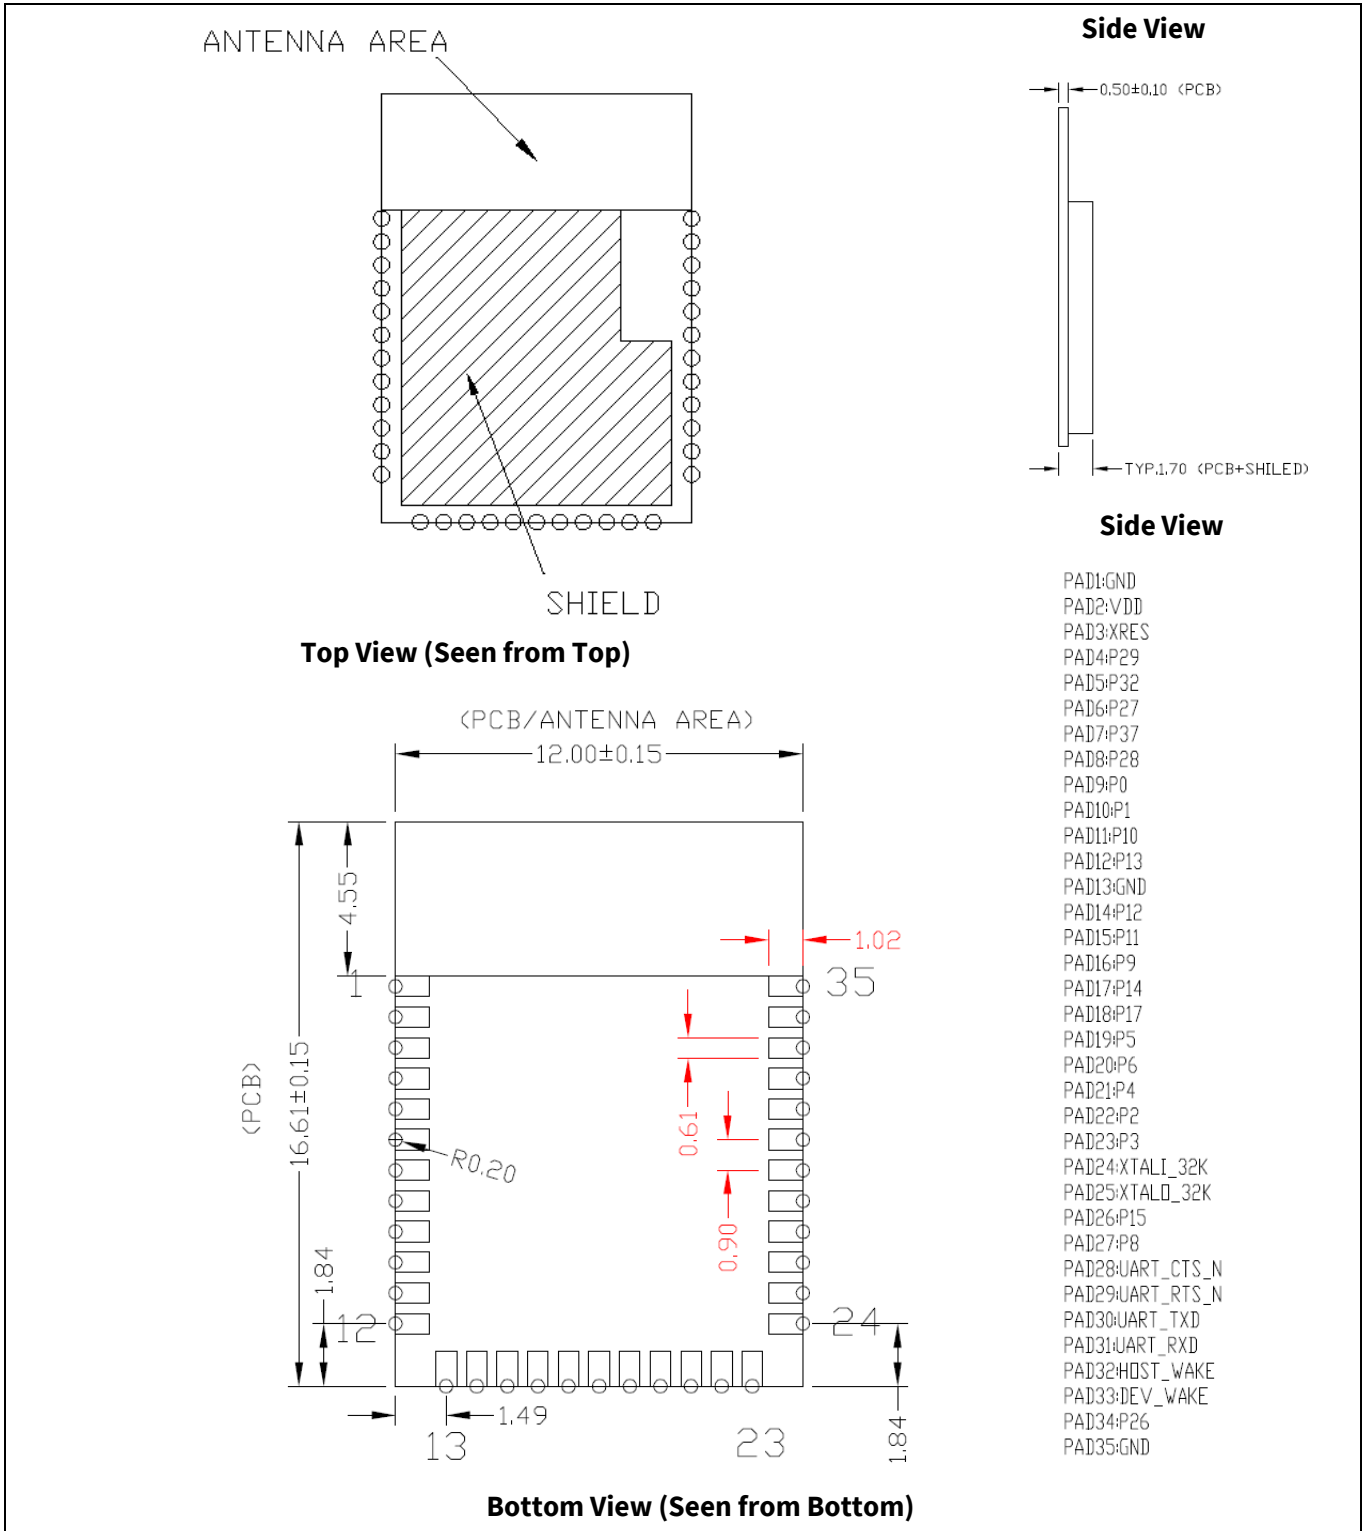
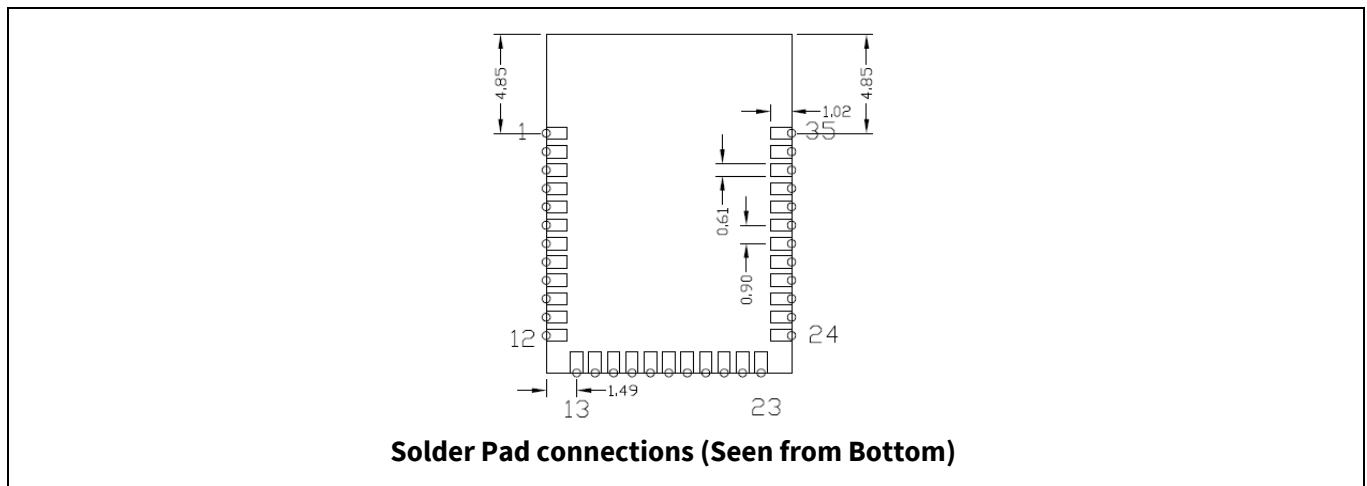
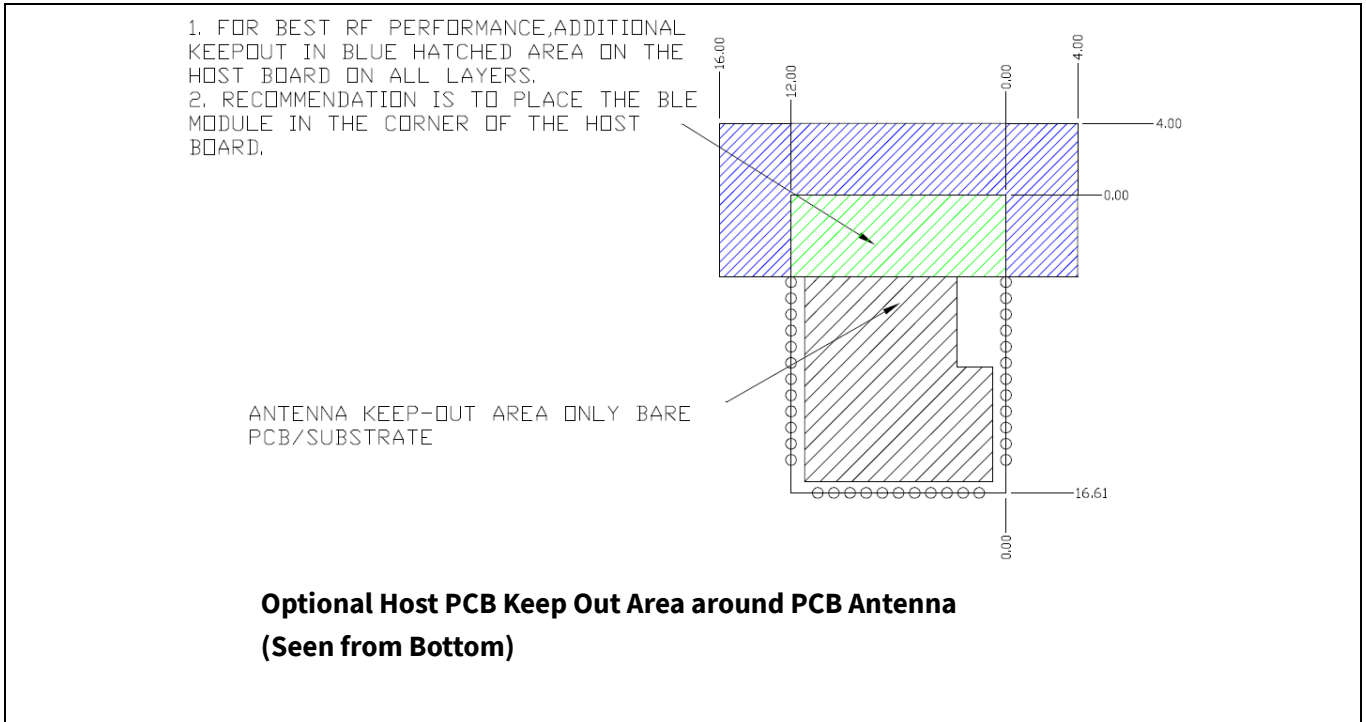

Figure 2 Module mechanical drawing
Figure 3 Solder Pad dimensions (Seen from Bottom)
Figure 4 Optional Additional Host PCB Keep Out Area around the CYBT-243053-02 PCB Antenna
Infineon reserves the right to select components from various vendors to achieve the Bluetooth® module functionality. Such selections will still guarantee that all mechanical specifications and module certifications are maintained. The CYBT-243053-02 will be held within the physical dimensions shown in the mechanical drawings in **Figure 2**. All dimensions are in millimeters (mm).
See **Figure 2** for the mechanical reference drawing for CYBT-243053-02.
As shown in the bottom view of **Figure 2**, the CYBT-243053-02 has 35 connections to a host board via solder pads (SP). **Table 2** and **Figure 3** detail the solder pad length, width, and pitch dimensions of the CYBT-243053-02 module.
1. Antenna Area Keepout: The host board directly below the antenna area of the Infineon module (see **Figure 2**) must contain no ground or signal traces. This keep out area requirement applies to all layers of the host board.
2. Module Placement: The ideal placement of the Infineon Bluetooth® module is in a corner of the host board with the PCB antenna located at the far corner. This placement minimizes the additional recommended keep out area stated in item 3 below. Refer to **AN96841** for module placement best practices.
3. Optional Keepout: To maximize RF performance, the area immediately around the Infineon Bluetooth® module PCB antenna may contain an additional keep out area, where there are no grounding or signal traces. The keep out area applies to all layers of the host board. The recommended dimensions of the host PCB keep out area are shown in **Figure 4** (dimensions are in mm).